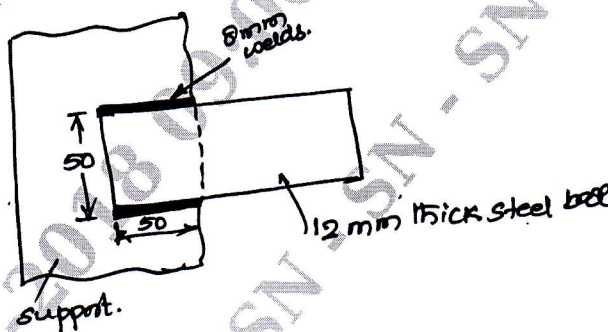

Fig Q7(b)
- b. The Fig Q7(b) shows as horizontal steel bar 12mm thick, loaded in tension and welded to a vertical support. Find the load  $p$  that will induce a shear stress of 60MPa in the welds.